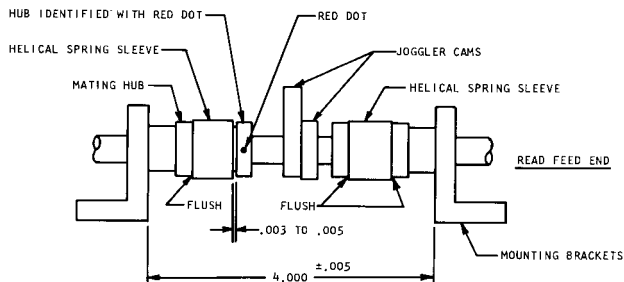

Figure 25. Center Stacker Joggler Assembly
2. Maintain  $4.000'' \pm .005''$  between the bases of the two inside bearing brackets (Figure 25).